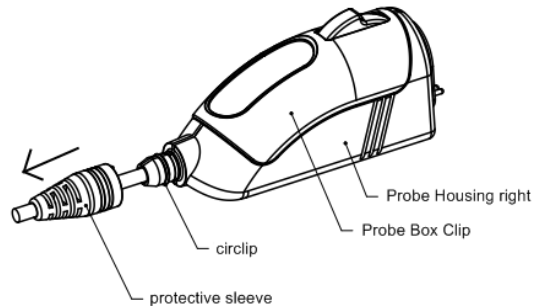

Figure 3-11: Removing sleeve and circlip
1. Slide of the protective sleeve in the direction shown at Figure 3-11.